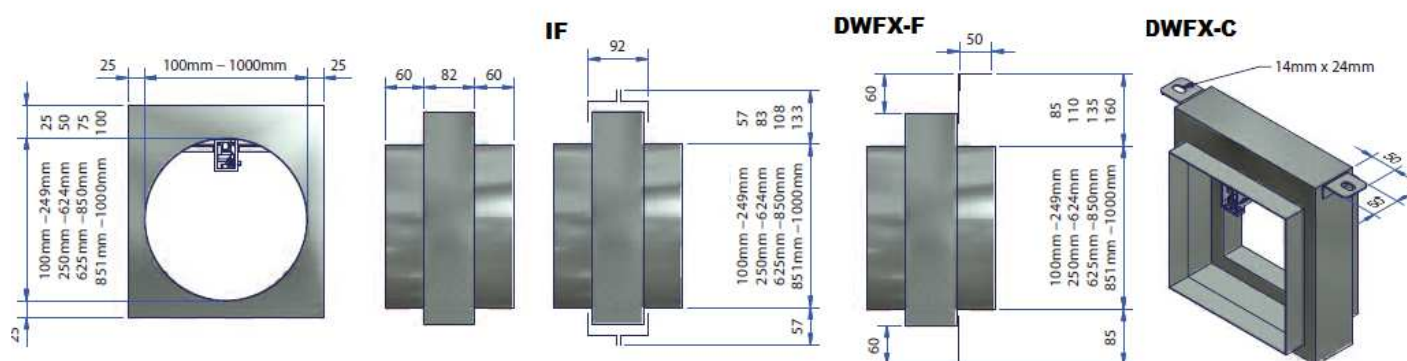

Figure 3. Series 301 with the curtain out of the airstream
- Series 301 (fig. 3) – from D100 to D1,000 mm